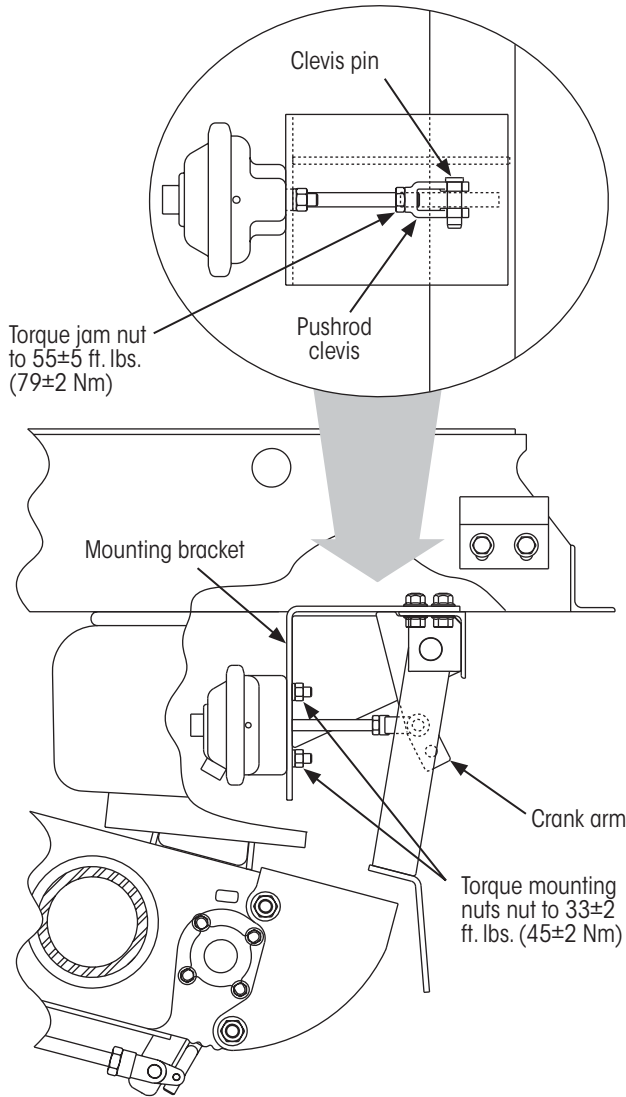

Figure 30: Brake chamber installation details for VANTRAAX HKAT 46K (HKA200) and HKAT 50K (HKA250)
3. **Slide** the brake chamber pushrod through the mounting bracket (Figure 30).
8. **Tighten** brake chamber mounting nuts (Figure 30) to 33±2 ft. lbs. (45±2 Nm) of torque.